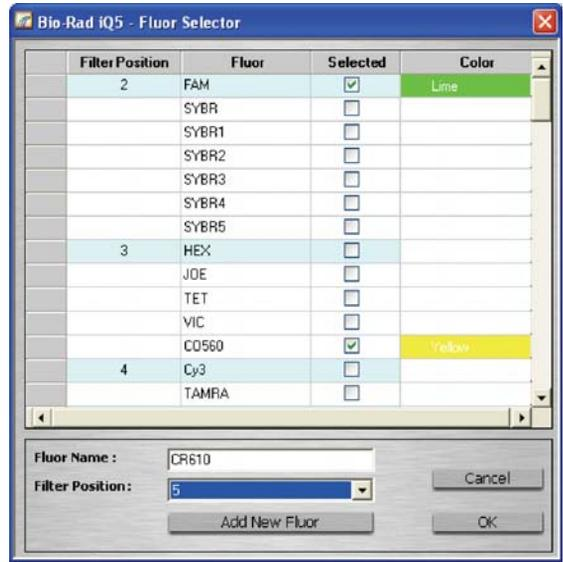

Figure 5. The iQ™5 Fluor Selector.
- b. Choose “Select/Add Fluorophores” to launch the Fluor Selector (Figure 5). Select/add the Plexor® HY fluors, specifying the following names and filter sets: